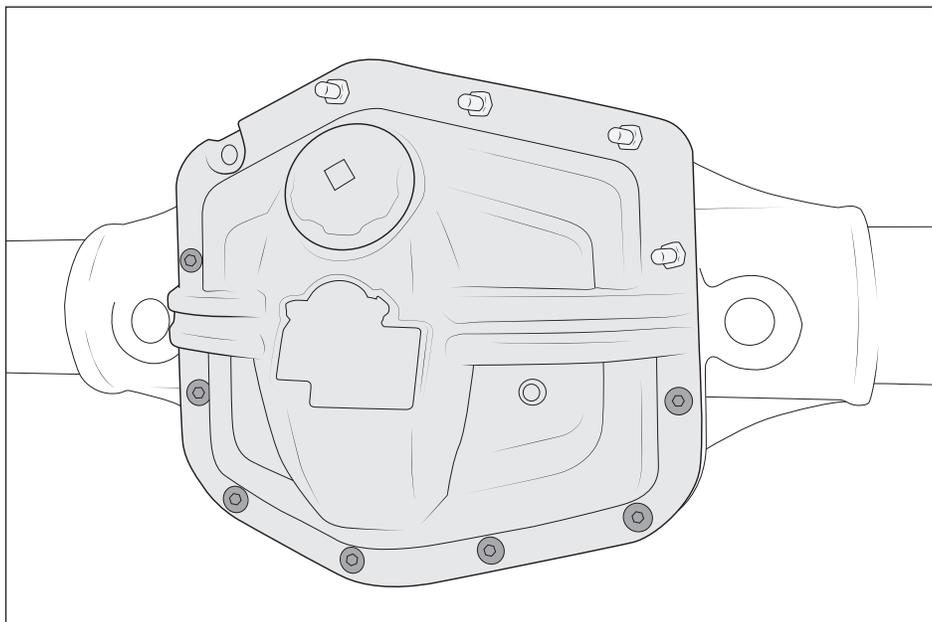

Figure 1
6. Place the new differential cover and differential cover gasket in the correct orientation and install, finger tight, QTY 4 M8 Double Ended Studs and QTY 7 M8 Bolts in the holes shown below (fig. 1).